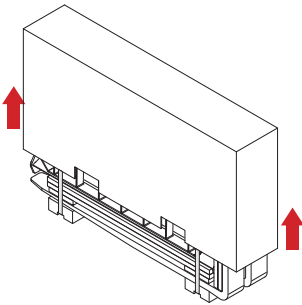
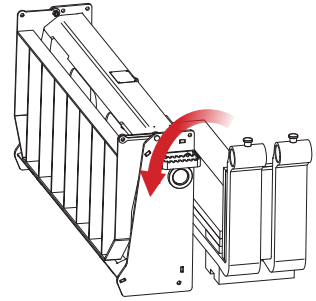
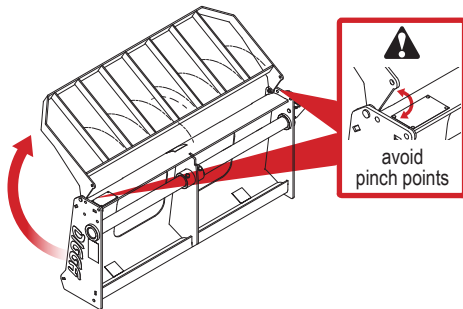

Figure 1
Figure 3
Figure 5
1. Slide cardboard packaging upwards and remove it (Figure 1). Ensure packaging is disposed of in accordance with federal, state and local regulations.
3. Using appropriate material handling equipment, place the frame on the ground (Figure 3).
2. Swing the safety guard upright (Figure 5).
Ensure hands are well clear from the pinch points (Figure 5).
Method 1: Pull locking pin and twist to lock open. Lift the tyne with one hand while pushing the top of the tyne with the palm of your other hand. (Figure 1). Top hand should be positioned at the top of the tyne to ensure it is well away from the bottom rail. (Figure 5) Twist locking pin to lock position and move tyne until locking pin falls into tyne rod groove.
Do not attempt to reposition the tynes with hands and fingers wrapped the tyne (Figure 3 and 4). always Use the palm of your hand to avoid potential pinching (Figure 5).